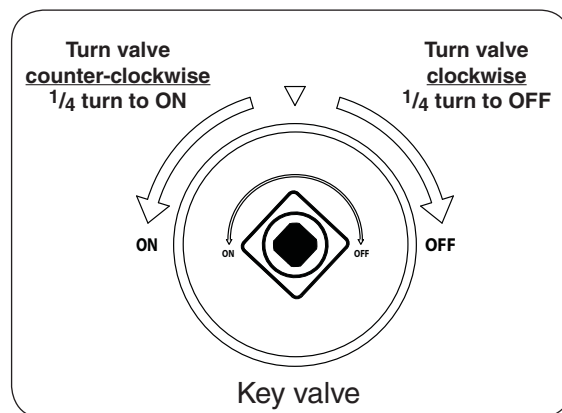

Fig. 23-2
4. **Once the match is burning and in position**, turn the key valve counter-clockwise a  $\frac{1}{4}$  turn to the **ON** position (see Fig. 23-2). Your burner should light.
**WARNING:** If the burner does not light within (5) seconds of turning on the key valve, immediately turn the key valve clockwise a  $\frac{1}{4}$  turn to the **OFF** position.
To extinguish your gas burner, turn the key valve clockwise a  $\frac{1}{4}$  turn to the **OFF** position (see Fig. 23-2). Be sure the key valve is turned fully off to avoid any gas leakage.